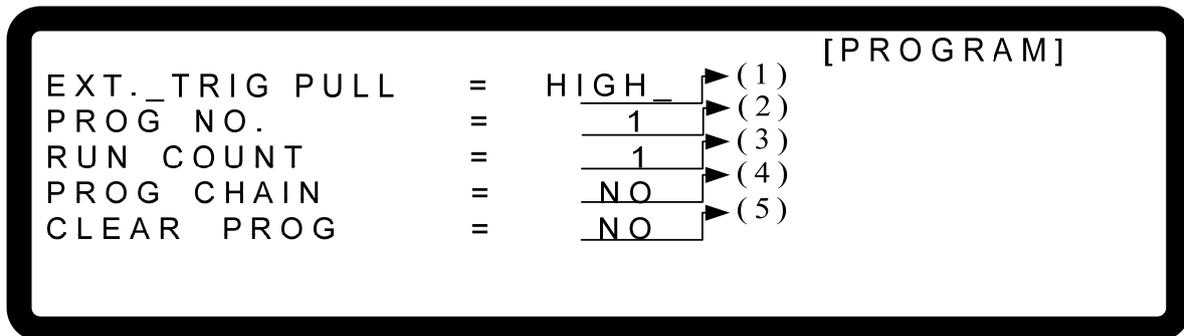
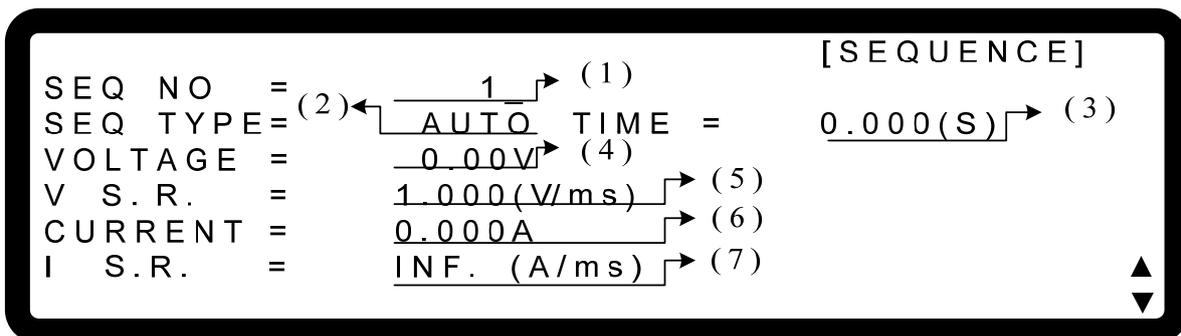

Figure 4-3
Figure 4-8
1. Use “”, “” keys to move to the cursor to the column to be set as Figure 4-3 (1) shows.
1. Use “”, “” keys to move the cursor to the column to be set as Figure 4-3 (2) shows.
1. Use “”, “” keys to move the cursor to the column to be set as Figure 4-3 (3) shows.
1. Use “”, “” keys to move the cursor to the column to be set as Figure 4-3 (4) shows.
1. Use , keys to move the cursor to the column to be set as Figure 4-3 (4) shows.
- a. In PROGRAM page (Figure 4-3), if the PROGRAM has no SEQUENCE when the cursor is at (5), press "↓→" can add a new SEQUENCE. The page will skip to Figure 4-8.
- b. When the cursor is at (7) in Figure 4-8 as the SEQUENCE of a PROGRAM, press "↓→" can add a new SEQUENCE.
3. Use "←↑", "↓→" keys to move the cursor to the column to be set as Figure 4-8 shows.
6. Press "EXIT" to return to Program PAGE (Figure 4-3).
1. Use “”, “” keys to move the cursor to the column to be set as Figure 4-8 (1) shows.
2. When the cursor is in Figure 4-8 (7), press “” can add a new SEQUENCE. Also it can use numeric keys ~ or “Rotary” () knob to set the value and return to the previous set Sequence Number.
4. Press “” to return to Program PAGE (Figure 4-3).
1. Use “”, “” keys to move the cursor to the column to be set as Figure 4-8 (2) shows.